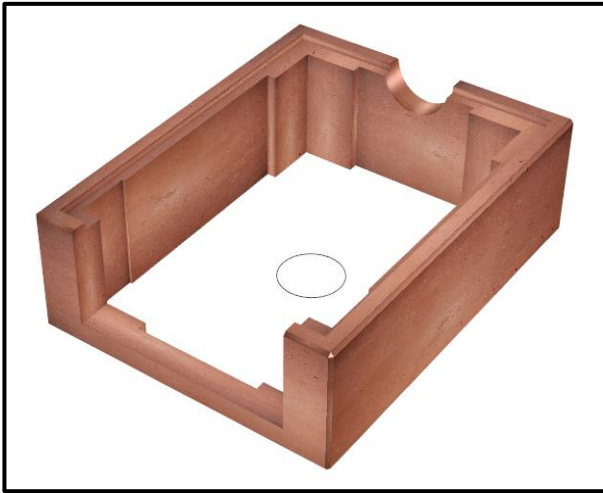

Fig.5a
1. Set the first external element on the ground (Fig. 5a). The element must be properly leveled and matched to the combustion air intake opening. In Fig. 5b, the cross-section of the element connection shows the place where the stove-fitters glue should be applied. Fig. 5c shows the connection of the elements after applying glue (gray). The manufacturer recommends the use of mortar - Haftmörtel (Hochtemperatur Kleber) - available from Producer.